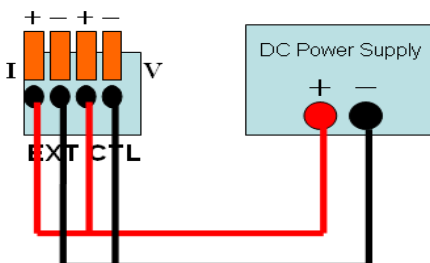

Figure 36- Single Channel Analog Control Calibration Setup
2. Connect the 10VDC source to the analog inputs on the **DIO/Analog Interface Card** as shown in Figure 36 for single channel.